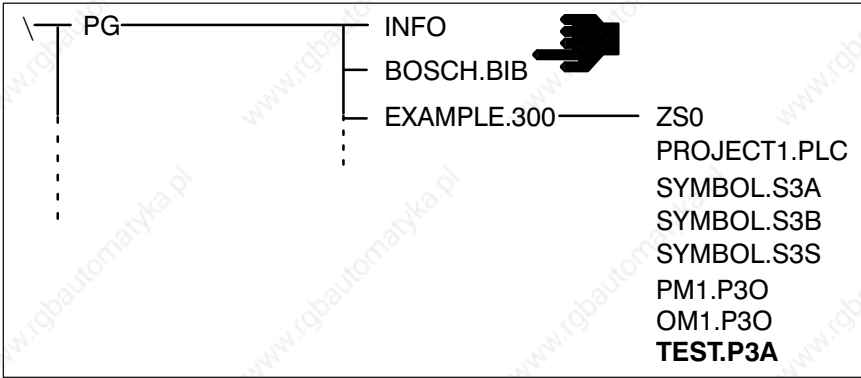

Fig. 2–22 Project directory after linking
When you have created the controller configuration (see Fig. 2–2) at your workplace, you can load the program into the central processing unit.
- ★ Connect the connecting cable **K7** to the PLC programming interface of the **EP/AG module** and to the **central processing unit ZE300/ZE301**, see Fig. 2–2.